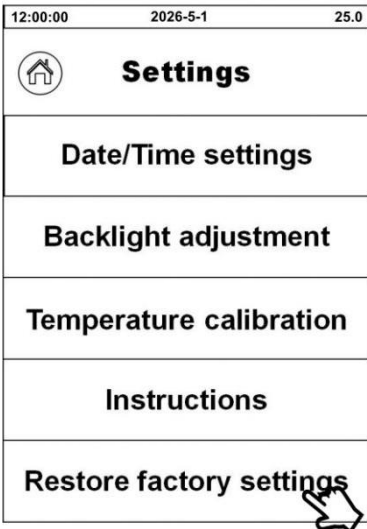

Fig. 20
5) Restore factory settings: Click "Restore Factory Settings" then "OK"; the instrument returns to factory state and all internal records will be cleared(Fig.20).